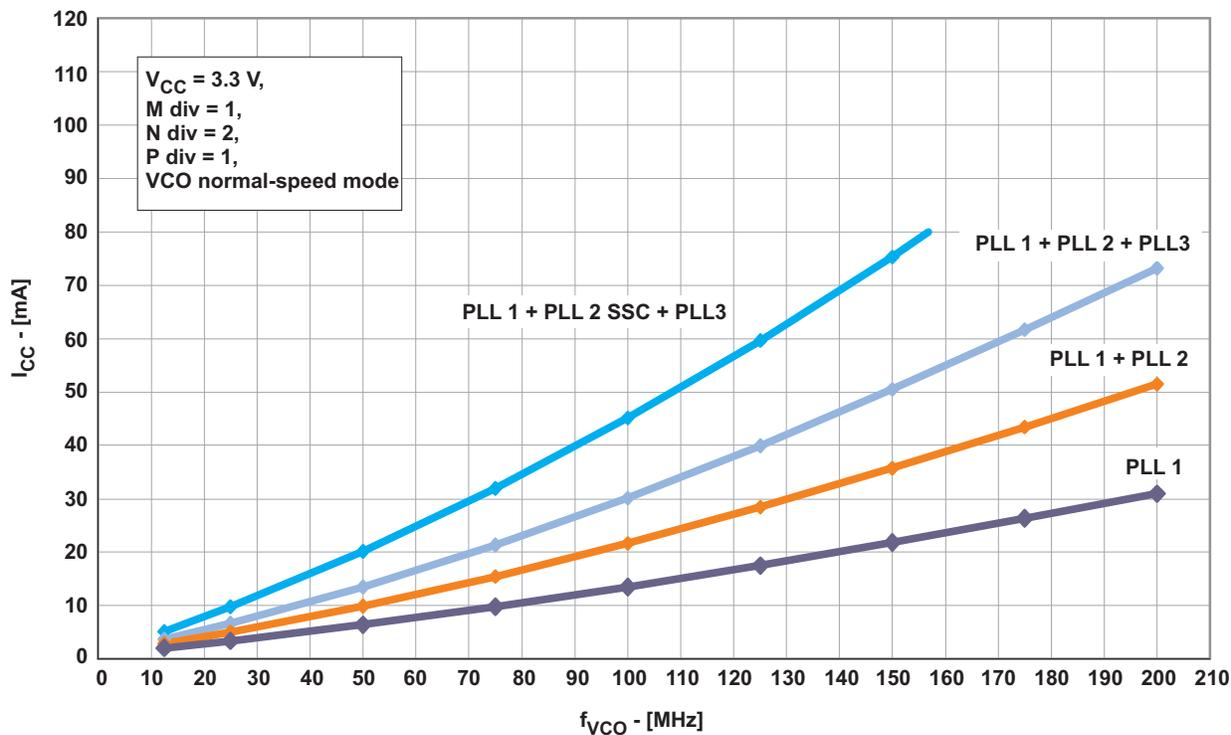
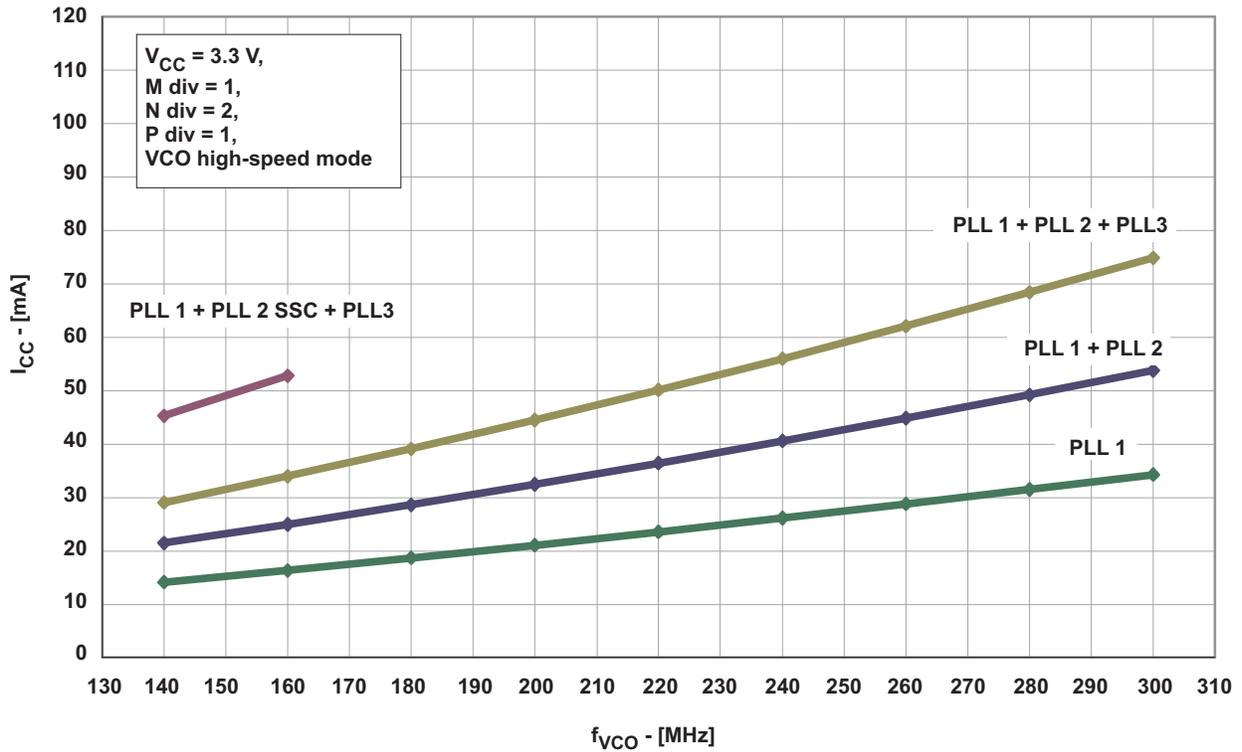
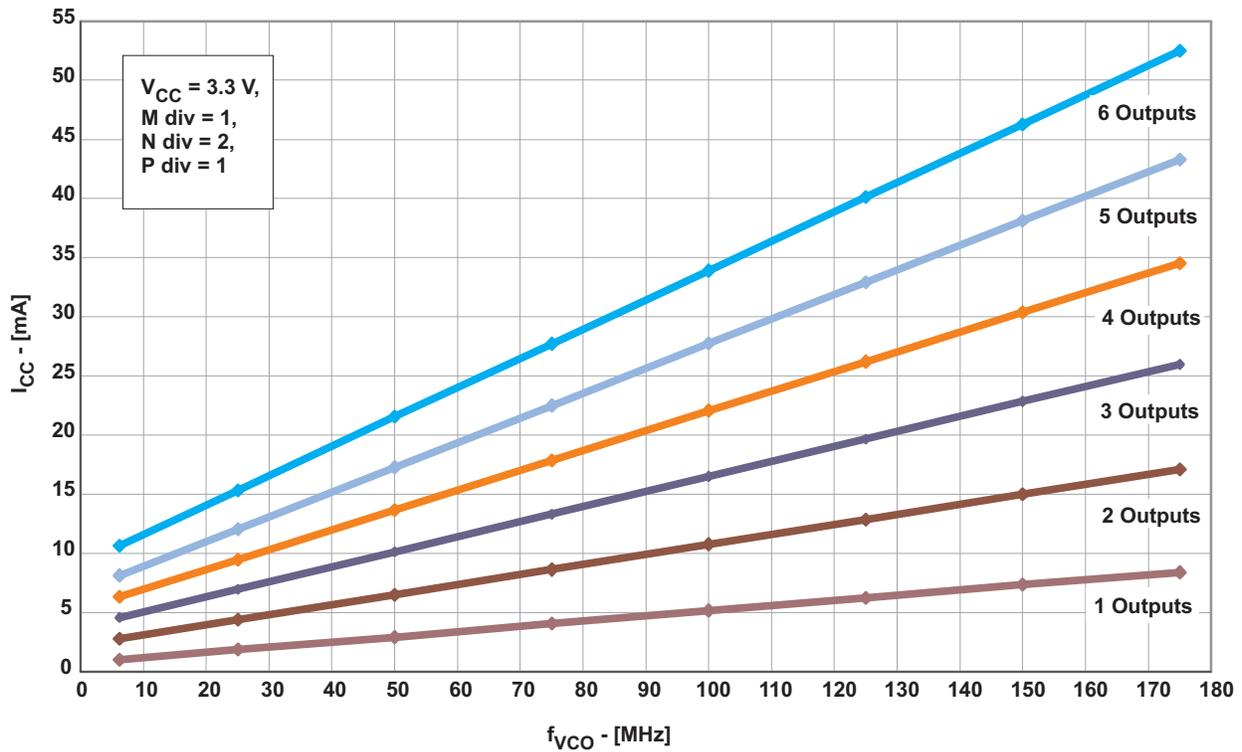
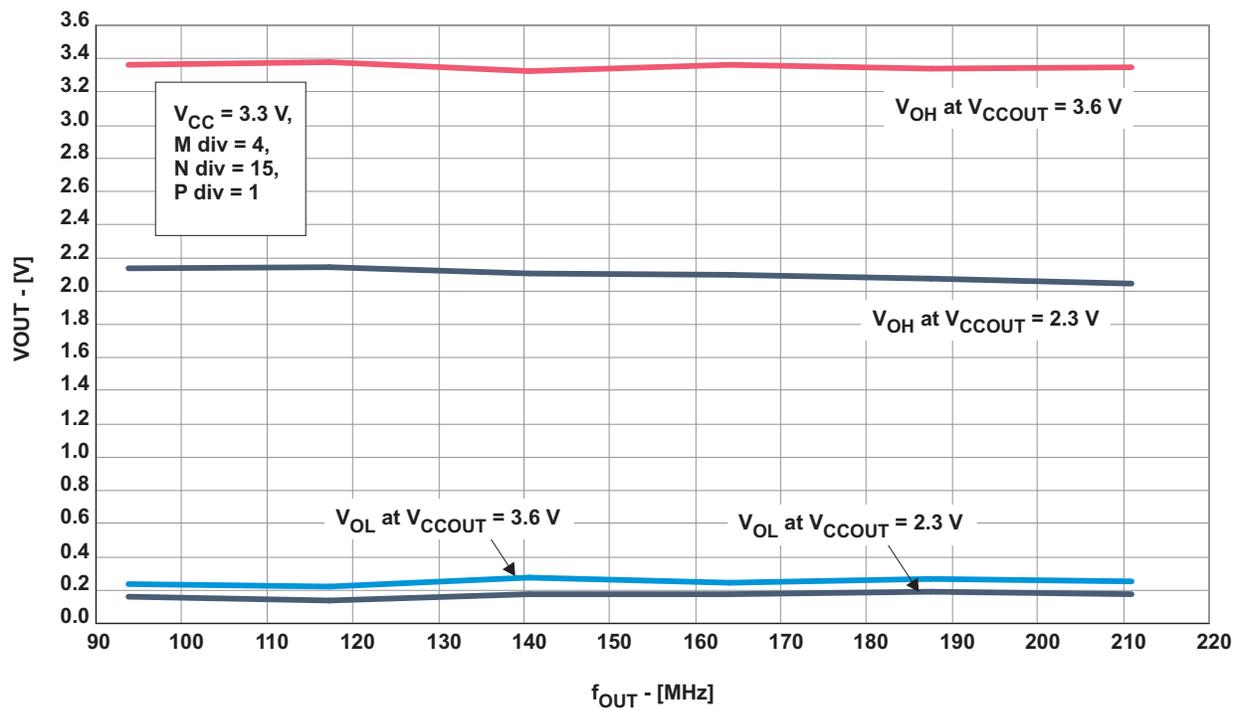

Figure 2.  $I_{CC}$  vs Number of PLLs and VCO Frequency (VCO at Normal-Speed Mode, Byte 6 Bit [7:5])
Figure 3. ICC vs Number of PLLs and VCO Frequency (VCO at High-Speed Mode, Byte 6 Bit [7:5])
Figure 4. ICCOUT vs Number of Outputs and VCO Frequency
Figure 5. Output Swing vs Output Frequency
- (1) All typical values are at respective nominal  $V_{CC}$ .
- (2) For calculating total supply current, add the current from Figure 2, Figure 3, and Figure 4. Using high-speed mode of the VCO reduces the current consumption significantly. See Figure 3.
- (3) Normal-speed mode or high-speed mode must be selected by the VCO frequency selection bit in Byte 6, Bit [7:5]. The min  $f_{(VCO)}$  can be lower but impacts jitter-performance.
- (4) The maximum output frequency may be exceeded, but specifications under the Recommended Operating Condition may change and are no longer assured. Do not exceed the maximum power dissipation of the 20-pin TSSOP package (600 mW at no air flow). See Figure 5.
- (5) 50000 cycles.
- (6) Jitter depends on configuration. Jitter data is for normal  $t_r/t_f$ , input frequency = 27 MHz,  $f_{(VCO)} = 147$  MHz output.
- (7) The  $t_{sk(o)}$  specification is only valid for equal loading of all outputs.